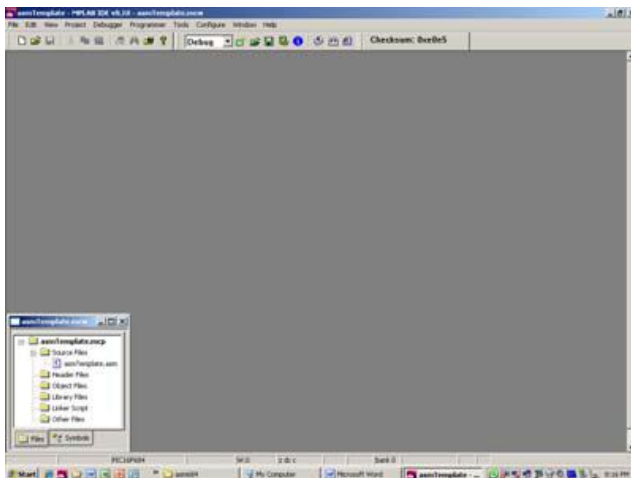

Fig 1.1: Project window placement
- e. Move the Project Window to the bottom left-hand corner (Fig 1.1).